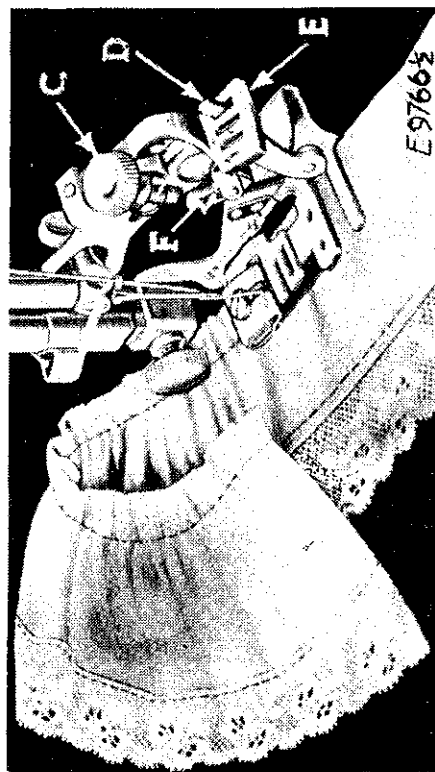

FIG. 43.
Raise the needle bar to its highest position and remove the presser foot. Attach the ruffler foot (A) to the presser bar from the right and fasten by means of the thumb screw, at the same time placing the fork arm (B) astride the needle clamp as shown in Fig. 43.
The adjusting finger (F) is not intended for gathering and should be moved forward or away from the needle, as shown in Fig. 43.